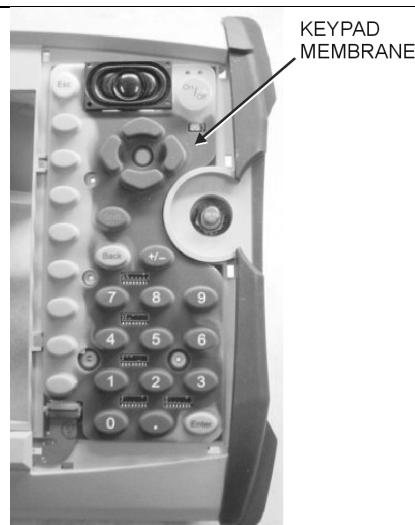

Figure 18. Keypad Membrane
3. Remove the keypad membrane by carefully lifting the speaker and pulling the membrane off of the keypad PCB (Figure 18).